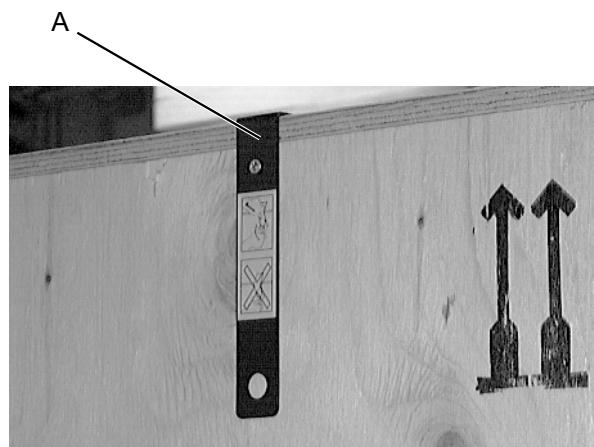

Figure 134: Location of clip removal tool
3. Unscrew and remove the clip removal tool (see Figure 134, A) from the rigid transport packaging.